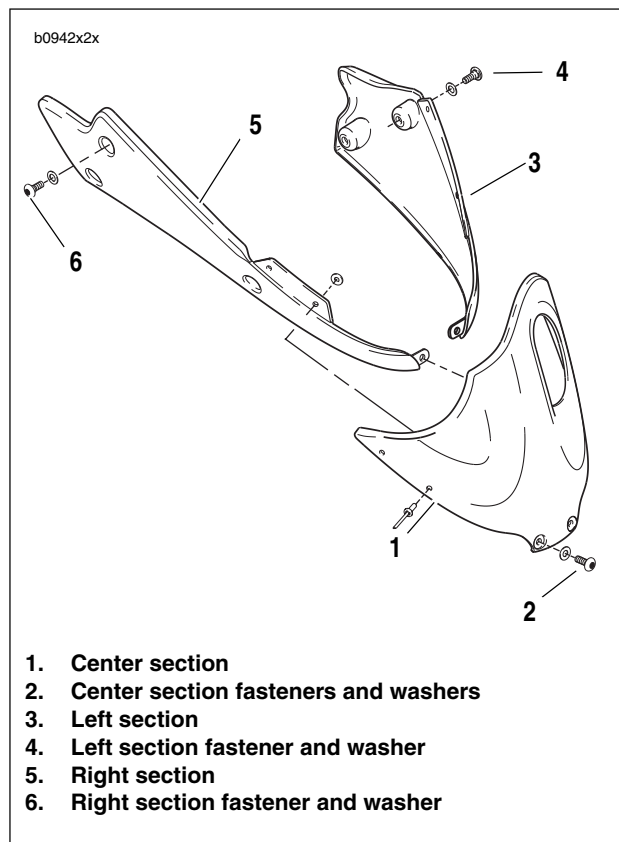

Figure 2-117. Chin Fairing Assembly
3. See Figure 2-117. Remove center section fasteners and washers (2).
4. Remove left section fasteners and washers (4).
5. Remove right section fasteners and washers (6).
1. See Figure 2-117. Position chin fairing (5) and install with right side fasteners and washers (6).
2. Align left section (3) and install with left side fasteners and washers (4).
4. Align center section (1) and install with center section fasteners and washers (2). Use LOCTITE 272 on all fasteners tightening to 36-48 in-lbs (4-5 Nm).